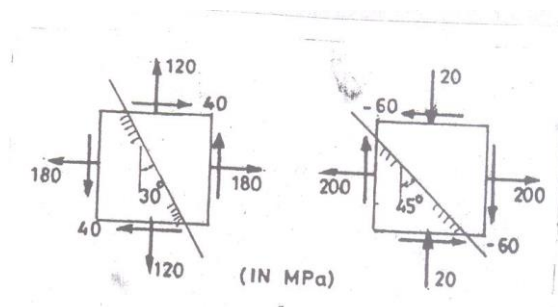

Fig. 1.
- At a point in a strained material, the principal stresses are  $100\text{ N/mm}^2$  (T) and  $40\text{ N/mm}^2$  (C). Determine the resultant stress in magnitude and direction in a plane inclined at  $60^\circ$  to the axis of major principal stress. What is the maximum intensity of shear stress in the material at the point?
- For the elements illustrated in Fig. 1 calculate the stress components on the inclined planes.